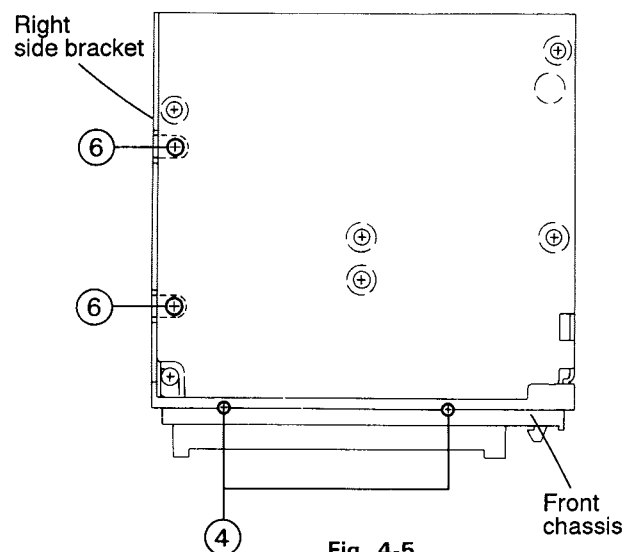

Fig. 4-5
2. After turning over the body upside down, remove the two screws (4) retaining the front chassis (See Fig. 4-5).
4. After turning over the body upside down, remove the two screws (6) retaining the right side bracket (See Fig. 4-5).